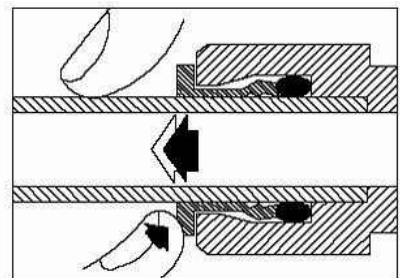

Fig. 3-3: When removing the hose, complete the task by pressing the collette.
2. When removing the hose, pull the hose by pressing the collette as shown in Figure 3-3.